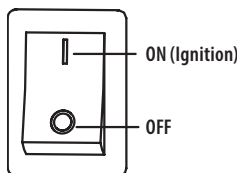

Figure 16
- If equipped with an emergency stop control switch, make sure that the emergency stop control is set to the ON position, represented by the solid line while attempting to start the engine. See Figure 16.
To stop the running engine using the emergency stop control, move the switch to the OFF position, represented by the circle. See Figure 16.